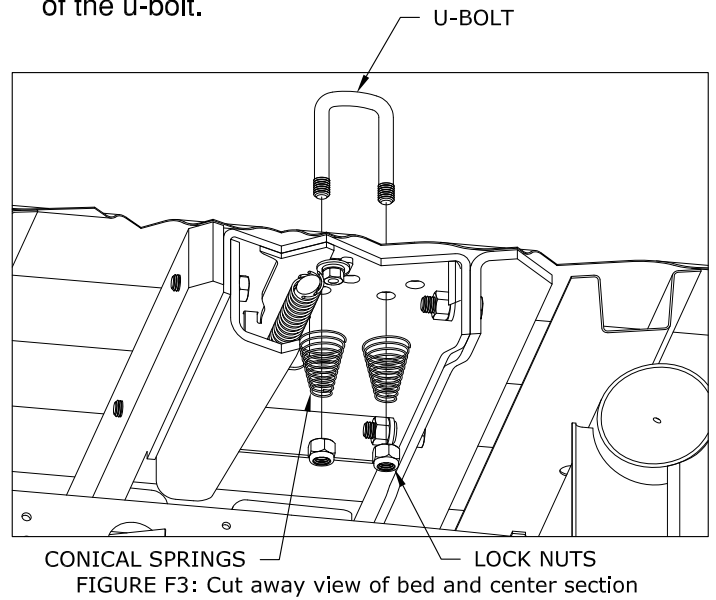

FIGURE F3: Cut away view of bed and center section
3. **Add springs.** Place a conical spring over each leg of the u-bolts and secure with a $\frac{1}{2}$ " lock nut, see figure F3. Tighten the lock nut until the nut is flush with the end of the u-bolt.